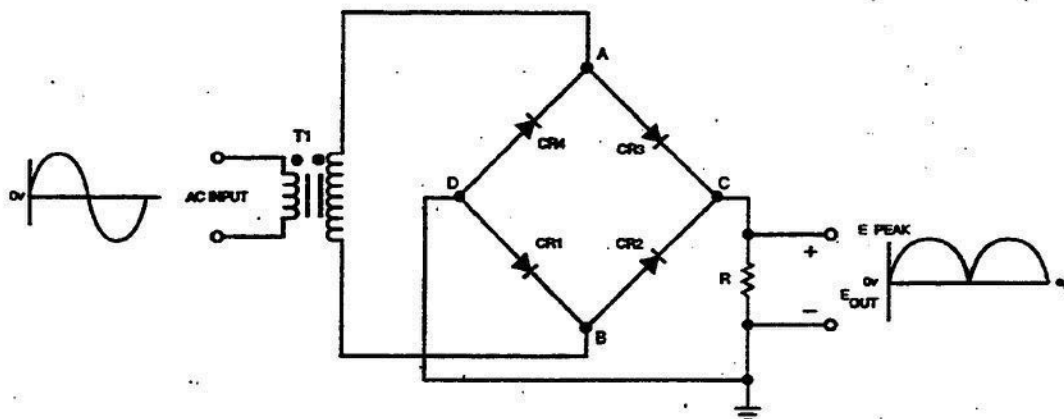

Figure 3-12. Positive bridge rectifier, input and output voltages.
**Bridge.** The most efficient of rectifiers is a bridge rectifier circuit (fig. 3-12). It provides the high voltage of a half-wave rectifier and its high-current capabilities are comparable to a full-wave rectifier because each alternation of the input is reproduced in the output. A bridge rectifier is made up of four diodes wired into a circuit to provide two separate paths for current flow to a load resistor. AC is applied to two separate corners on alternate half-cycles and the rectified peak output is taken between the other two corners.
Observe that the direction of current flow through R is the same for both the positive and negative half-cycles of the AC input. The output voltage developed across R is a rectified version of the AC input voltage. Figure 3-12 shows the complete output waveshape from the bridge rectifier. With a given power
Observe that the direction of current flow through  $R$  is the same for both the positive and negative half-cycles of the AC input. The output voltage developed across  $R$  is a rectified version of the AC input voltage. Figure 3-12 shows the complete output waveshape from the bridge rectifier. With a given power transformer, a bridge rectifier produces an output voltage nearly twice as large as that produced by a conventional full-wave rectifier. This is because the entire secondary of the transformer is applied across the diode pairs.
7. On the negative alternation of the input cycle (fig. 3-12), which two diodes are conducting?